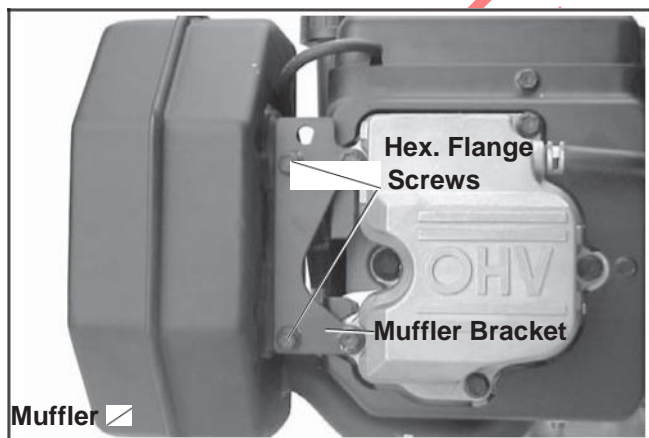

Figure 9-2. Removing Muffler.
1. Remove the hex. flange nuts from exhaust studs and hex. flange screws from muffler bracket. See Figures 9-2 and 9-3.